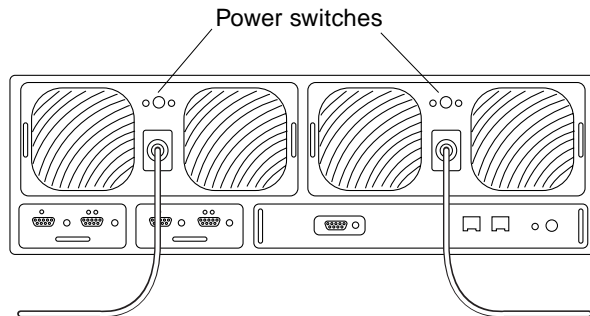

FIGURE 5-5 Power Cords Connected to the Power and Cooling Units
1. **Power off the power and cooling unit by pressing the power switch** (FIGURE 5-5). Make sure that the AC LED is amber and the PS LED is off.
3. **Disconnect the power cord from the power and cooling unit connector by squeezing both sides of the connector and pulling straight out** (FIGURE 5-5).